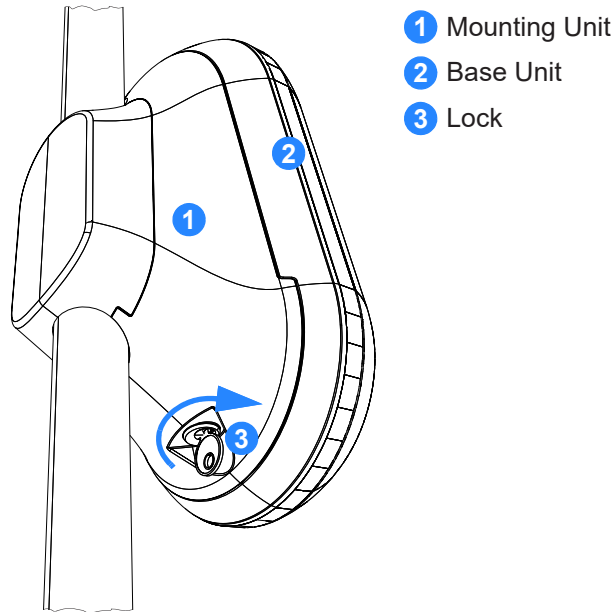

Figure 3-52 Lock
Step 6 Lock the device as shown in **Figure 3-52**.